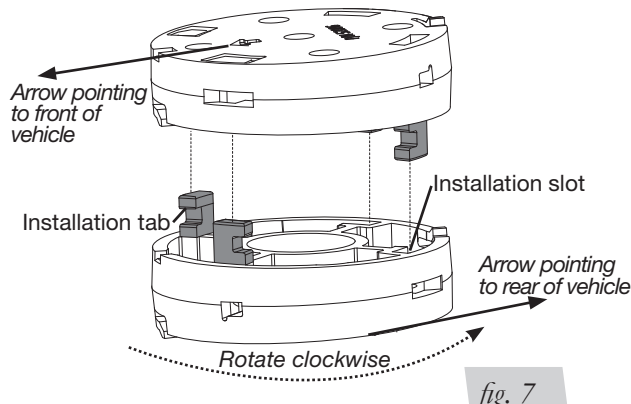

fig. 7
4. Before attaching the lower bracket lift block assembly to the vehicle, insert the installation tabs into the installation slots and rotate the lower lift block assembly clockwise (fig. 7).